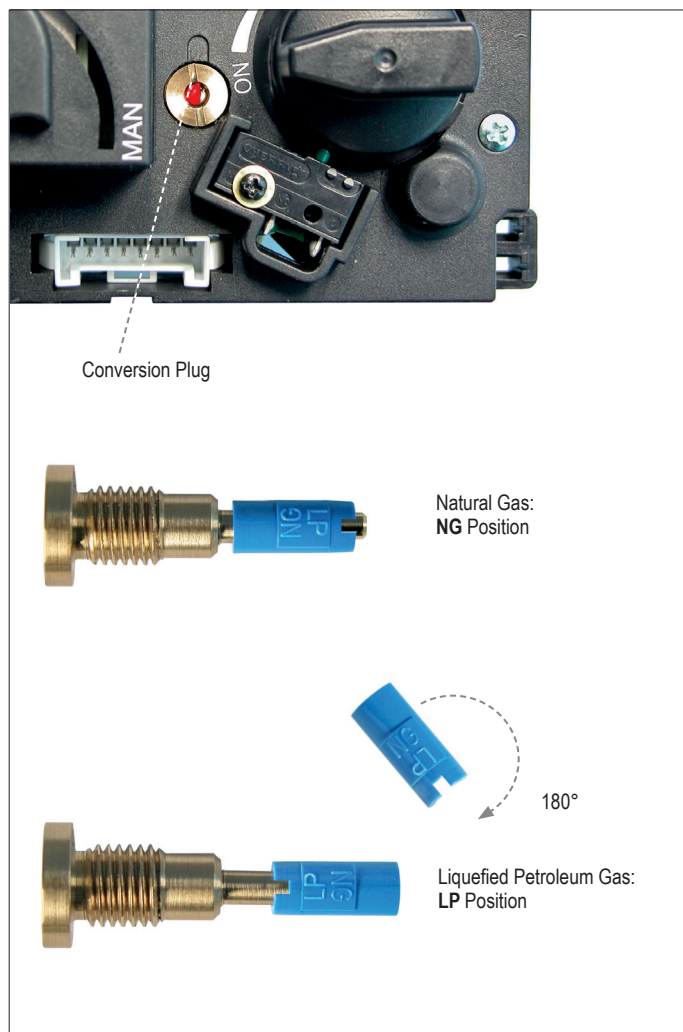

Figure 17: Conversion from one gas to another
Convertible regulators are designed to deliver either of two fixed outlet pressures for Natural Gas (NG) or LP Gas. To change from one gas to the other, turn the conversion plug (see figure 17, page 9) counter clockwise to remove. Unsnap and remove the plastic part, rotate it 180°, and then slide it back on the conversion plug until it snaps. Turn the conversion plug clockwise ⤵ until it bottoms out.
NOTE: Unscrew only the Conversion Plug with a slotted screw driver. Do not adjust the smaller screw under the red tamper proof paint (see figure 17, page 9).